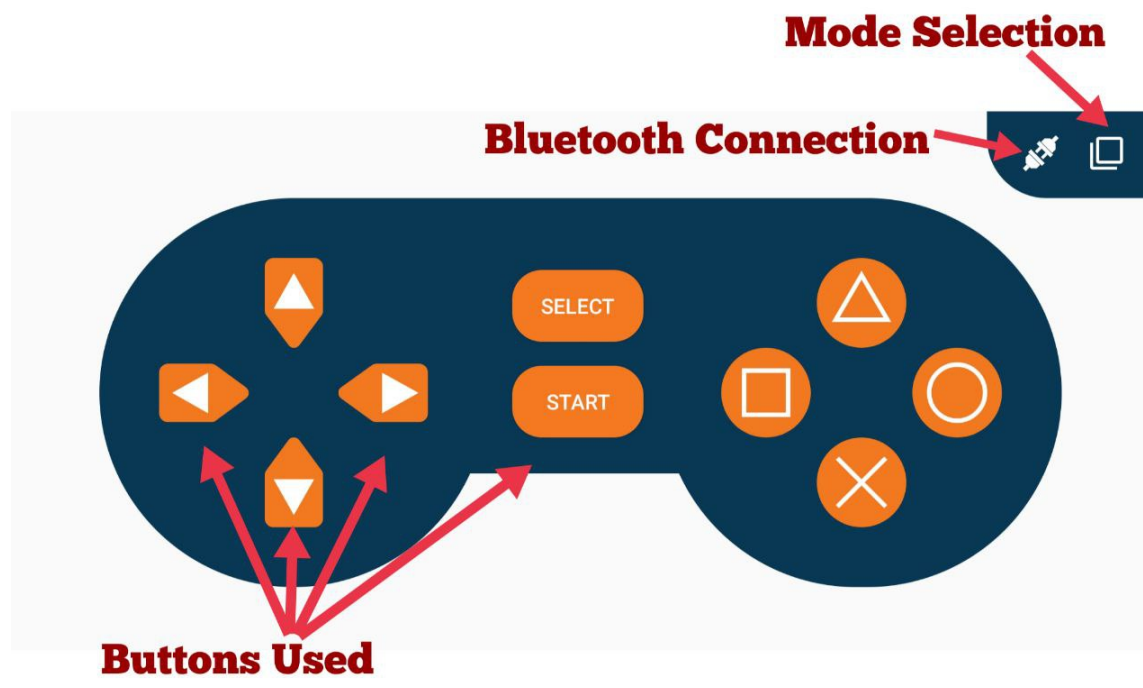

Figure 1.5.6.1: LCD pins
- 1.5.6. Open the Dabble application. Select gamepad option in the app and then select Digital Mode and connect it app to ESP-32 by connecting it ESP-32 bluetooth as shown in Figure 1.5.6.1.